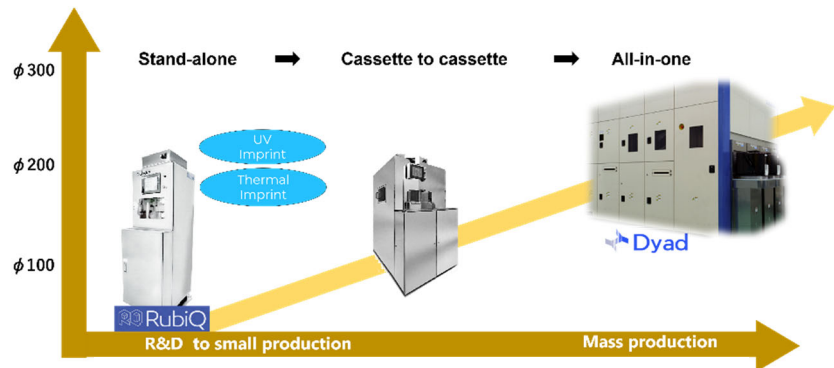

Fig.1 SCIVAX nanoimprint equipment lineup
As shown in Fig.1, SCIVAX lines up various types of nanoimprint equipment, ranging from manual equipment for basic research to mass production use. RubiQ® is the nanoimprinting equipment suitable for the engineers and researchers ① in the R&D departments of companies that are required to develop and commercialize the advanced products within a given timeline, ② in start-up companies that needs to demonstrate the proof of concept at an early stage, and ③ in universities and research institutes that are trying to promote joint research project with companies.